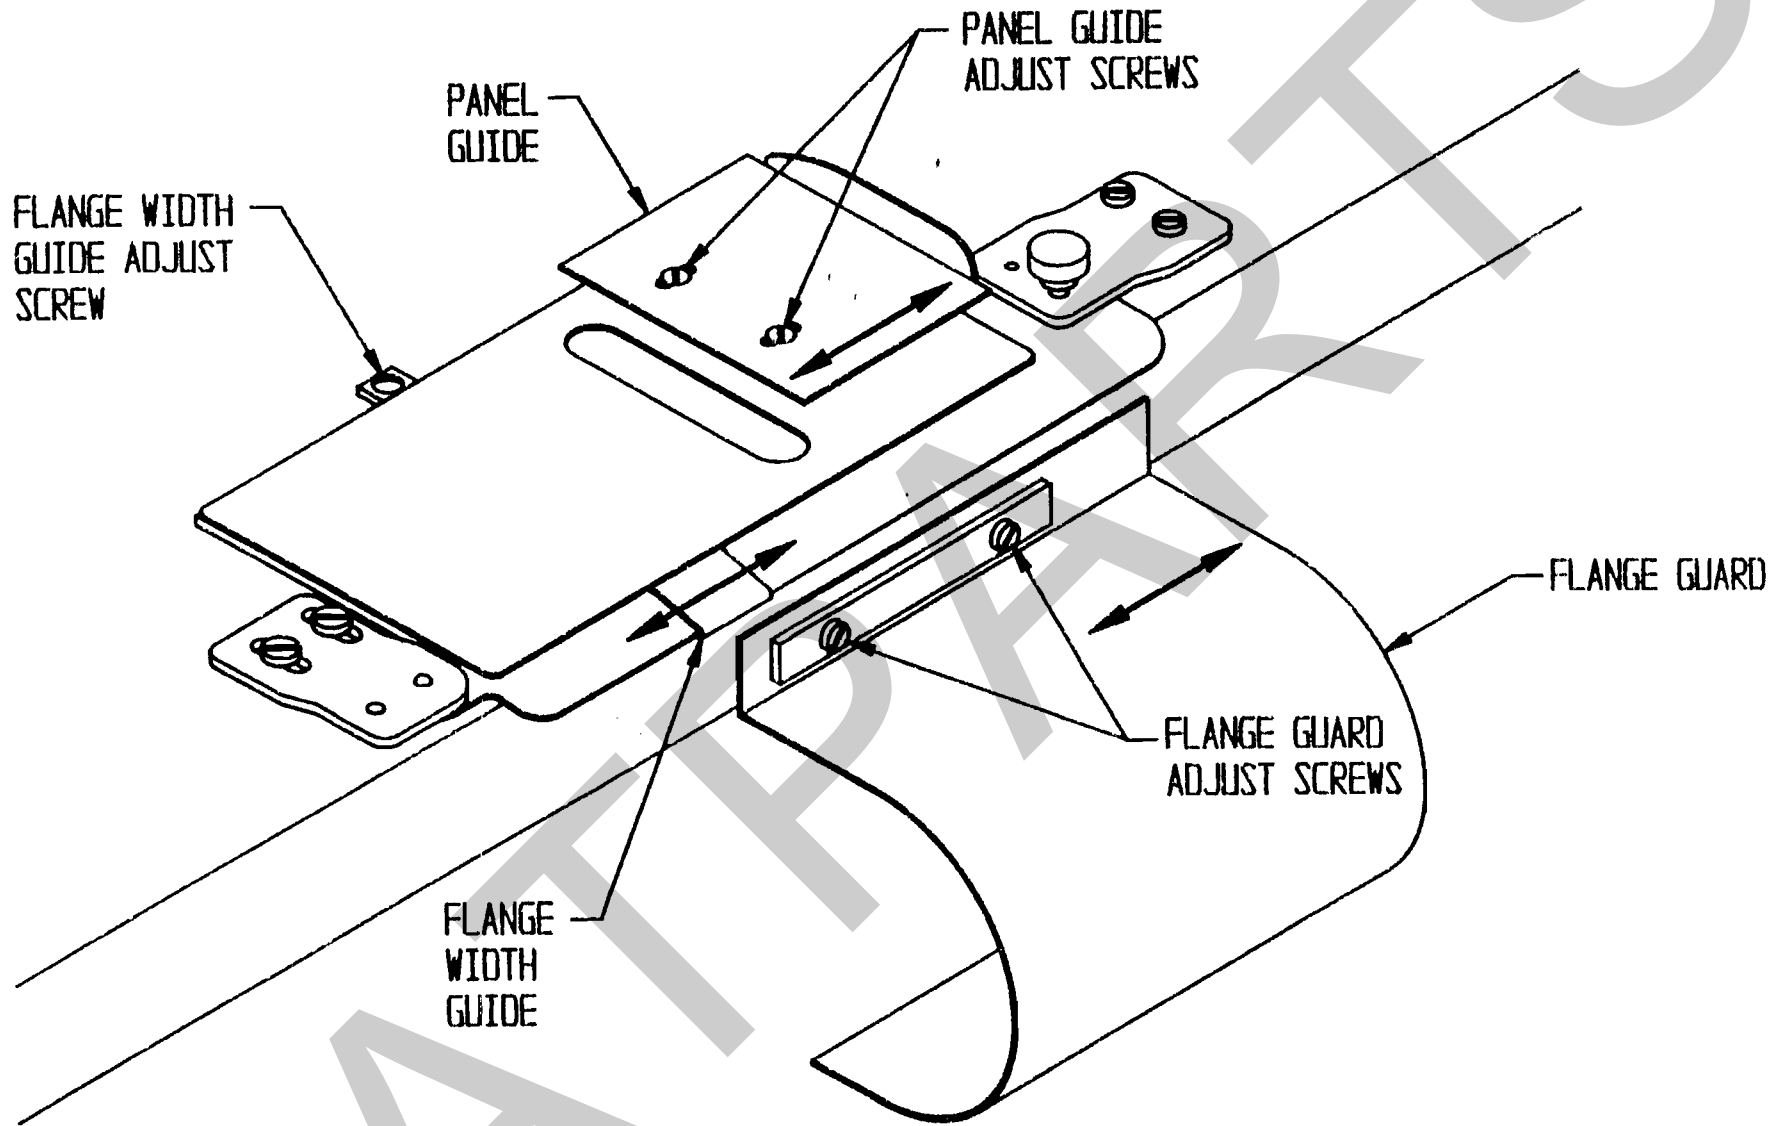

FIGURE 05
F. Flange Guide Adjustment (Figure 05)
Adjust the flange guide to control the flange material. Material should be able to move freely from under the sewing machine stand, around the curved flange guard, and through the flange guide to feed straight into the machine. Referring to Figure 05, adjust the flange guide to control the flange. Set the panel guide to guide the pad into the sewing machine.